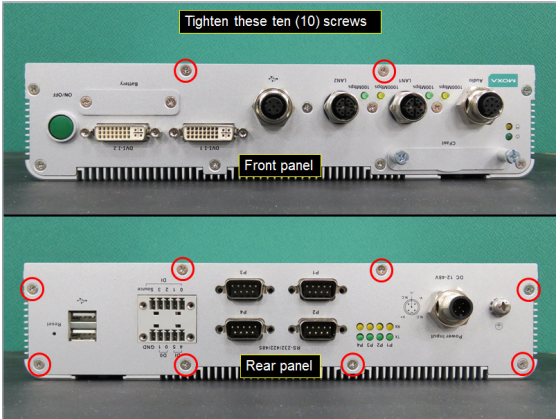

Figure 30
4.4.3 Push the front and rear panels back in place and use a Phillips screwdriver to tighten the ten (10) screws (marked with red circles) on the front and rear panel as shown in Figure 30.